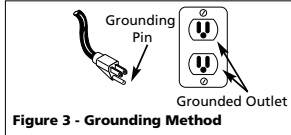

Figure 3 - Grounding Method
1. This product is for use on a nominal 120 volt circuit and has a grounding plug that looks like the plug illustrated in Fig. 3. Make sure the product is connected to an outlet having the same configuration as the plug. This product must be grounded. In the event of an electrical short circuit, grounding reduces risk of electrical shock by providing an escape wire for electric current. This product is equipped with a cord having a grounding wire with an appropriate grounding plug. Plug must be plugged into an outlet that is properly installed and grounded in accordance with all local codes and ordinances.